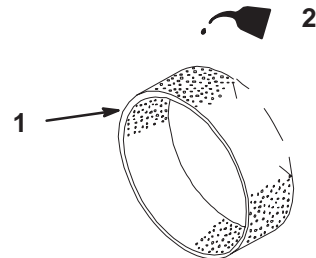

Figure 23
- C. Put oil on the element (Fig. 23). Squeeze the element to distribute the oil.